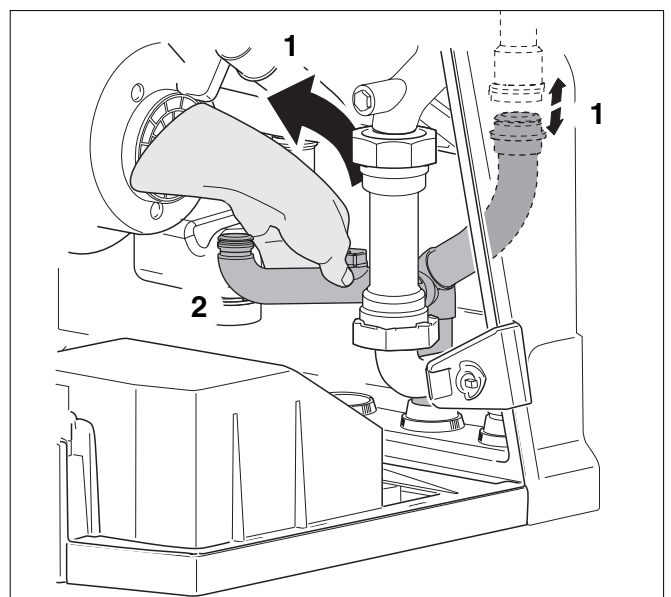

Fig. 132 Removing the supply pipe
- Pull the supply pipe out of the heat exchanger (see fig. 132, pos. 1).